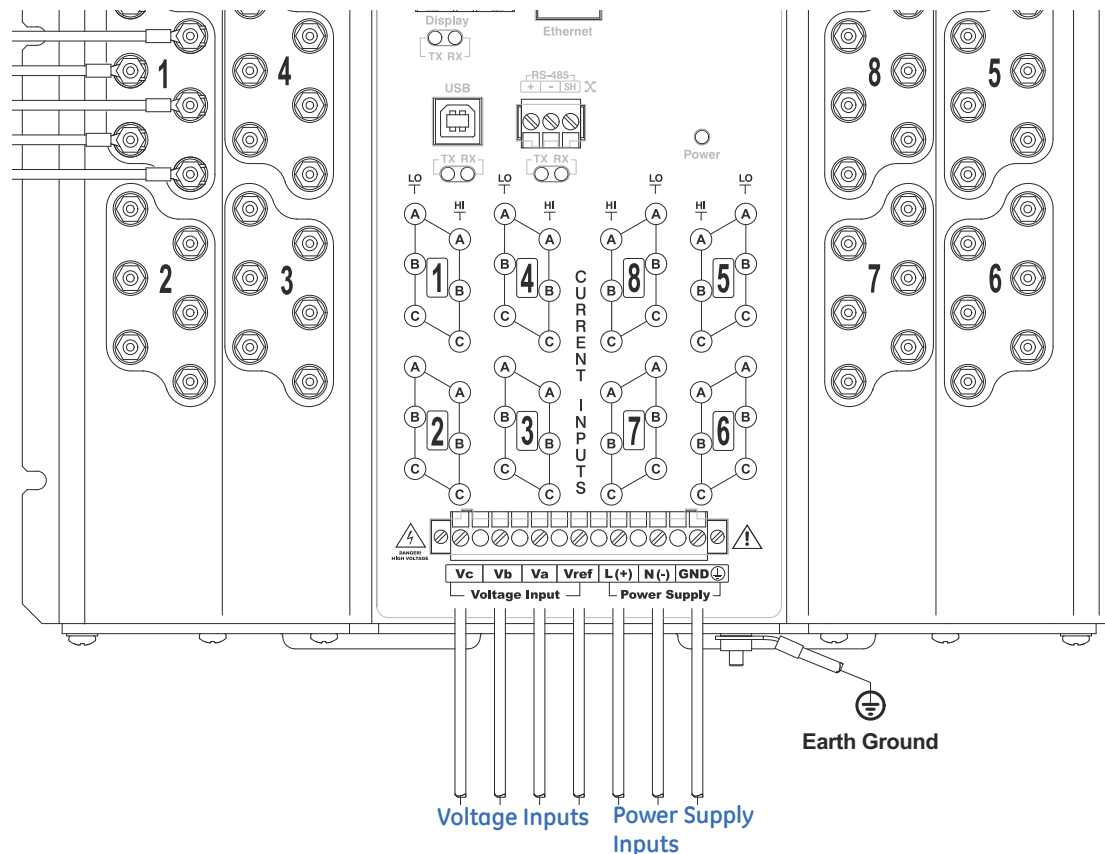

FIGURE 4.2: EPM 4600 Unit Connections
13. Remove the Ground connection from the stud on the EPM 4600 unit (see Figure 4.2).
3. Connect the Ground wire to the stud on the EPM 4600 unit and tighten the nut to 8.8 in-lb (1 N-m) (see Figure 4.2).